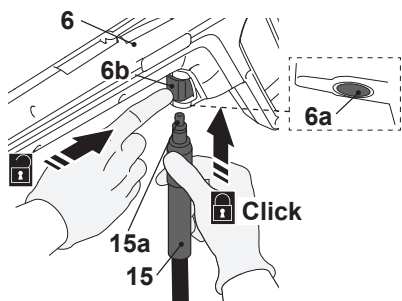

Fig. 6
- > Insert the connector (15a) of the pressure hose (15) into the hose connection port (6a) of the spray gun (6). Ensure it snaps in place (Fig. 6). Press the release button (6b) to unlock if necessary.